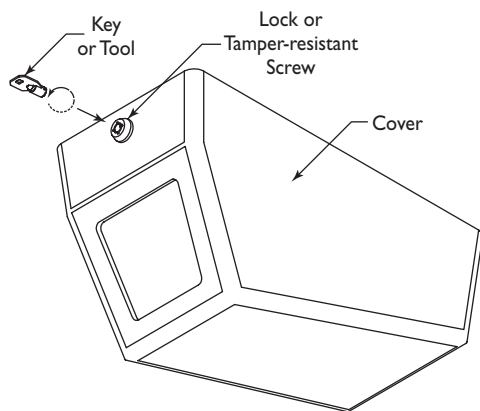

Figure 1 Unscrewing the Cover
- (1) Key (locking models only)
2. **All Models:** Use the special tool provided to unscrew the front two tamper-resistant screws, or use the key provided to unscrew the lock. See **Figure 1**.